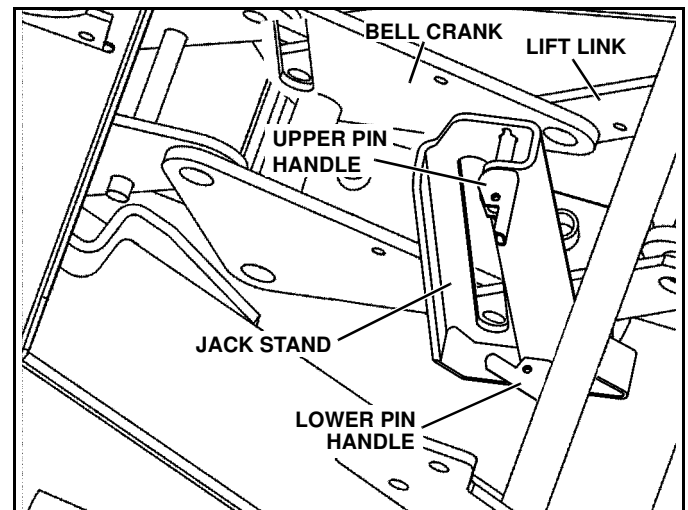

Figure 1-21
6. Disengage both jack stand pins by pulling on handles. Raise the jack stand and engage the bottom pin by pushing on the handle. Make sure pin is engaged in hole by rotating jack stand back and forth. (See Figure 1-21)